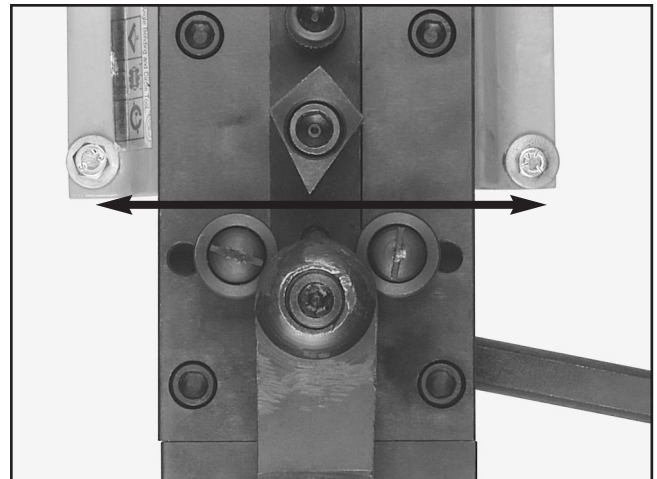

Figure 6. Work placement for the bending block.
2. Place the workpiece between the bending block and the guide rollers (**Figure 6**).